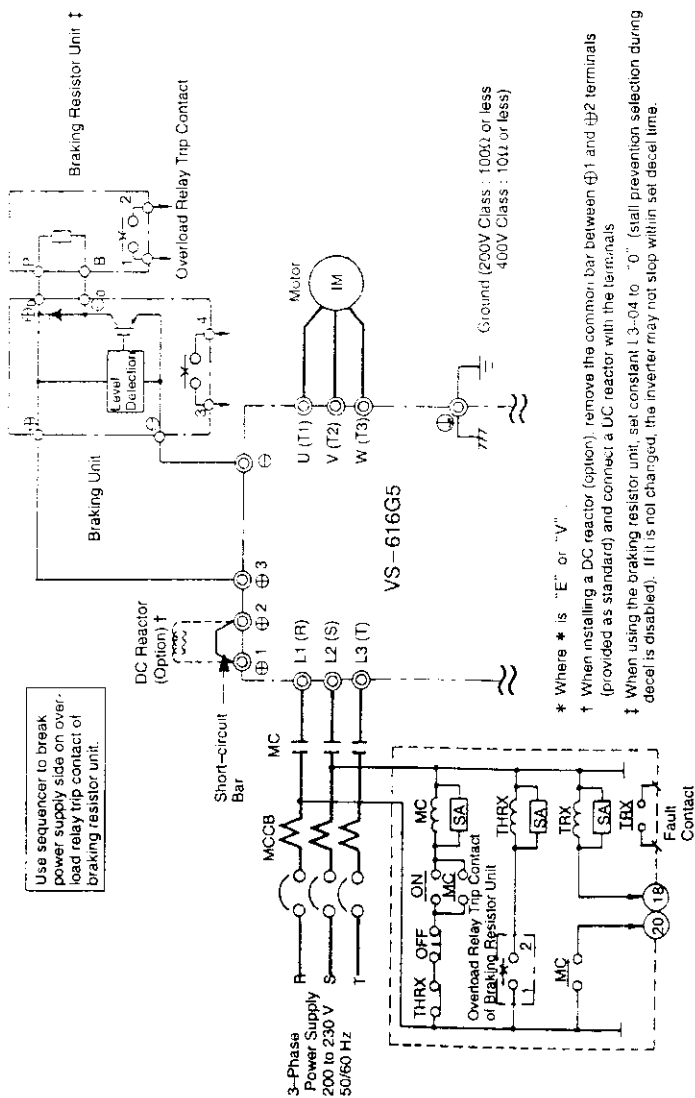

Fig. 15 For Models CIMR-G5 \* 2011 to -G5 \* 2015 (200 V Class 11, 15 kW)
- Connect thermal protector on the braking resistor unit and thermoswitch on the braking unit in parallel. Refer to Figs. 15 and 18 for proper wiring.